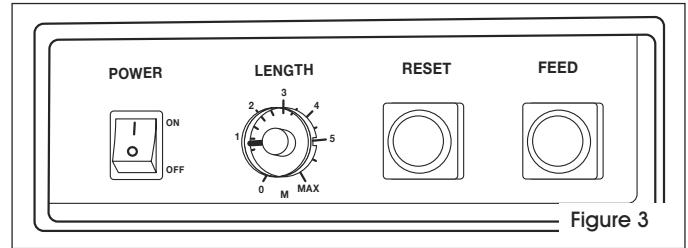

Figure 3
1. Set strap feed length: Determine the length of strap needed. Set control for 0-6. Lengths listed in meters. 1 = 3 ft. of strap. Example: for 6 ft. of strapping, set the control at "2". (See Figure 3)
2. Turn power ON. Allow machine to heat up 3-4 minutes. Strap won't seal if heating blade is not hot enough. (See Figure 3)
3. Pre-feed the strap: Press and hold the FEED button until the desired length of strap feeds out. (See Figure 3)